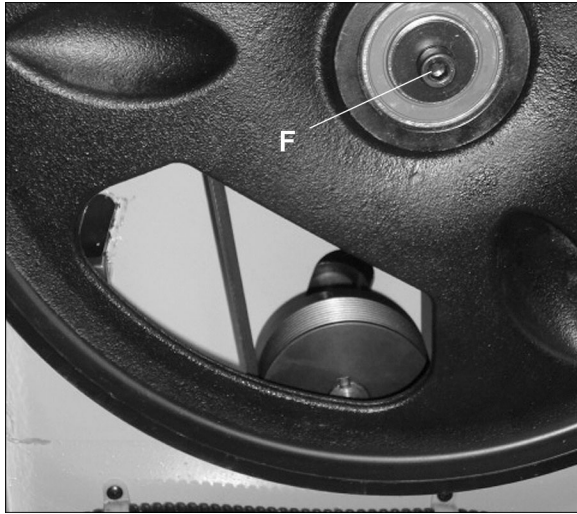

Figure 33
Refer to Figures 33 and 34.
3. Remove screw (F, Figure 33) from lower wheel shaft with a 6mm hex key, and remove lower wheel.